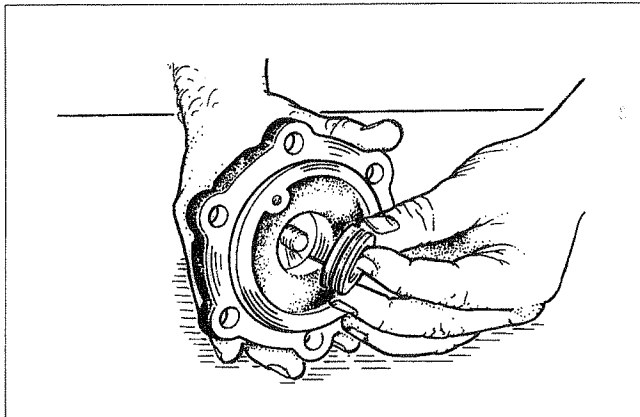

Figure 49
5. Reassemble the cap to gear using the 4 bolts. Tighten the bolts to 79Nm (Figure 49).